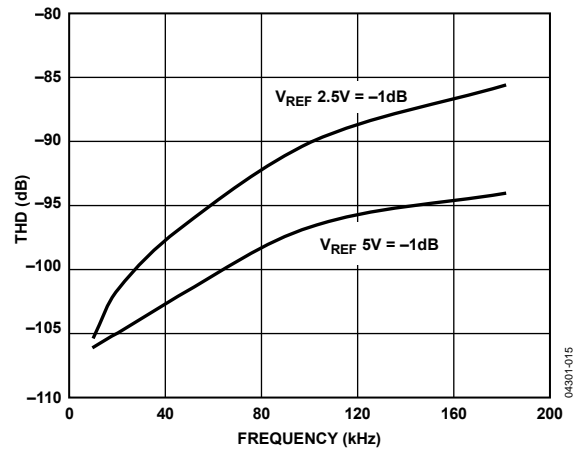

Figure 16. THD vs. Frequency
- For ac applications, the driver needs to have a THD performance suitable to that of the AD7683. Figure 16 shows the THD vs. frequency that the driver should exceed.